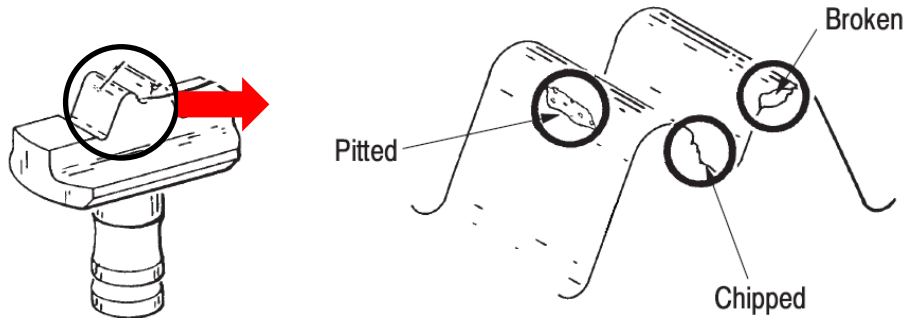

Figure 5
2. Check all surfaces for wear. Inspect the crimp area for flattened, chipped, cracked, worn, or broken areas (see Figure 5). **If damage is evident, the die must be replaced.**